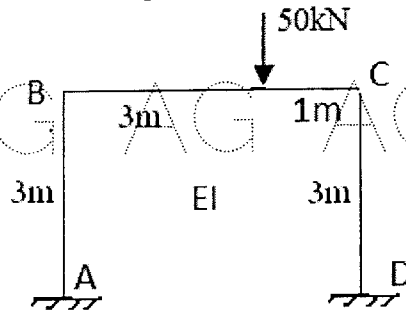

Figure 4
4. Analyze the portal frame shown figure 4 by Slope-Deflection method. [10]